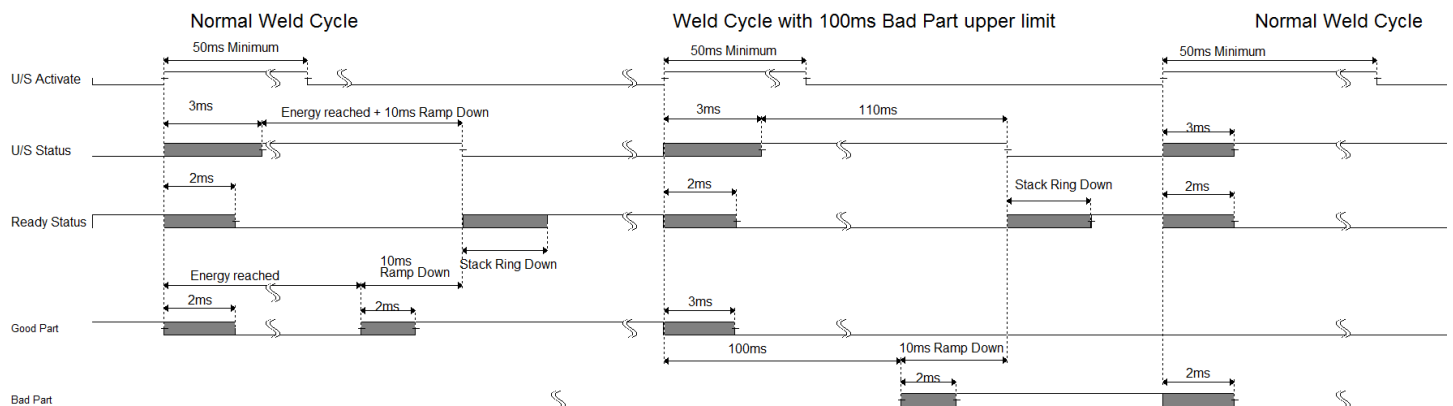

Figure 3: AiM Weld-by-Time Cycle Timing Diagram
**The Ready Status Output:** As with Weld-by Time, the Ready Status output should be used to determine if the generator is ready to start a weld cycle. As seen in Figure 3, the Ready Status output requires a minimum of 2ms to change to its off state after the U/S Activate input is activated. When the weld energy setting is reached in a normal weld cycle, there is a 10ms Ramp Down followed by the remaining stack ring down time. Since stack ring down time is stack and application dependent it may make this time much longer. The Ready Status output activates after a minimum of 2ms or when the ring down time is complete, whichever occurs last. For correct operation, a PLC controlling an AiM generator must account for the timing shown in Figure 3 before checking the Ready Status output.
**The U/S Status Output:** The U/S Status output is used to determine when the generator ultrasound output to the ultrasonic stack is active. As shown in Figure 3, the U/S Status output requires a minimum of 3ms to change to its on state. The U/S Status output will deactivate up to 12ms after the weld energy setting is reached. This 12ms consists of the 10ms ramp down and up to 2ms switching time. For correct operation, a PLC controlling an AiM generator must account for the timing shown in Figure 3 before checking the U/S Status output.
**The Good Part Status Output:** The Good Part output deactivates within 2ms after U/S Activate input is activated. Once the weld energy is reached the good part output will activate within 2ms. As shown in Figure 3 the Good part output activation timing is not affected by the 10ms ramp down.
**The Good Part Status Output:** The Bad Part Status output activates within 2ms and U/S Status will deactivate within 10ms after the maximum weld time limit is exceeded. The Ready Status output activates within 2ms or when the ring down time is complete, whichever occurs last. The Bad Part Status output will deactivate the next time the U/S Activate input is activated, but is delayed up to 2ms. A PLC controlling an AiM generator must take into account the timing shown in Figure 3 before checking the Bad Part, U/S, and Ready Status outputs.